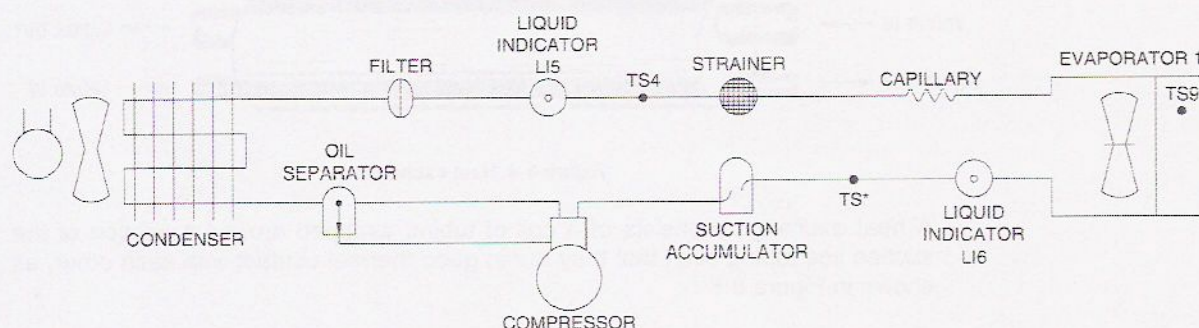

Figure 6-6. Schematic diagram of a refrigeration system.
A schematic diagram of a refrigeration system using a capillary tube control is shown in Figure 6-6. This system will be used to show the effects of adding a heat exchanger into the refrigeration system.
- Open and close the manual valves to arrange the refrigeration system as shown in Figure 6-6. Figure A-9 in Appendix A may be used to assist in the proper set-up of the system.